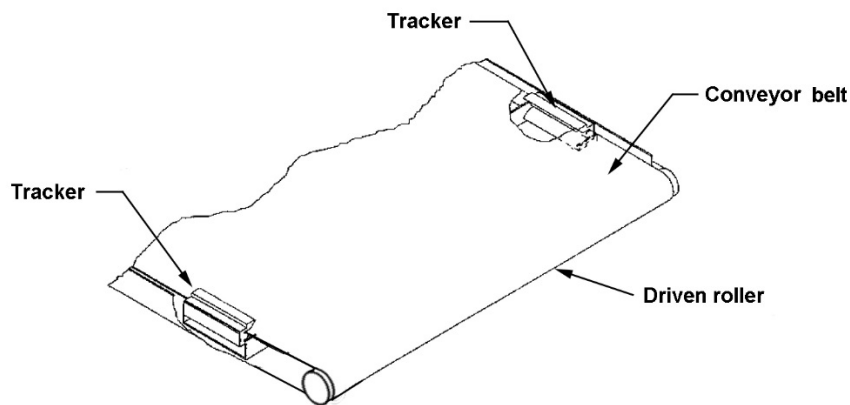

Figure 11-1: Underside of Conveyor Shown
6. On the underside of the conveyor table, there are U-channels welded to the table. The Tracker is positioned on the inside of the first U-channel on the infeed side of sander (Figure 11-1). The back of tracker is magnetized and will stick to side wall of conveyor table. Do not install tracker if edge of conveyor belt is damaged or torn.